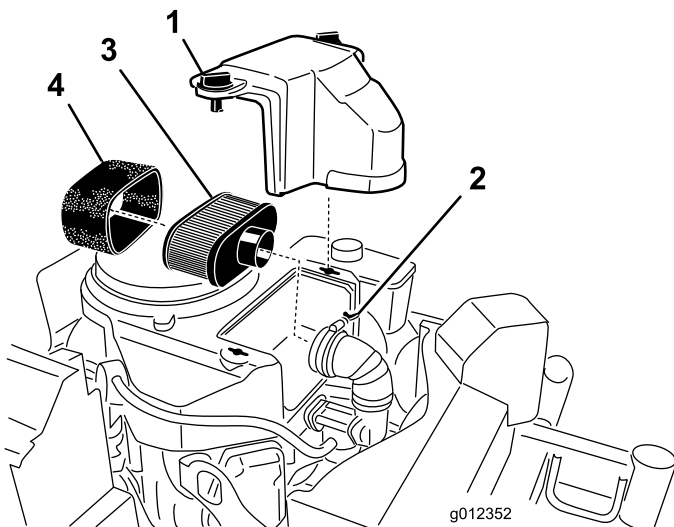

Figure 24
3. Clean around the air cleaner to prevent dirt from getting into the engine and causing damage (Figure 24).
4. Unscrew the cover knobs and remove the air cleaner cover (Figure 24).
5. Unscrew the hose clamp and remove the air cleaner assembly (Figure 24).
6. Carefully pull the foam element off the paper element (Figure 24).
1. Do not clean the paper filter. Replace it (Figure 24).
1. Carefully slide the foam element onto the paper air cleaner element (Figure 24).
2. Place the air cleaner assembly onto the air cleaner base and secure it with the 2 wing nuts (Figure 24).
3. Place the air cleaner cover into position and tighten the cover knob (Figure 24).